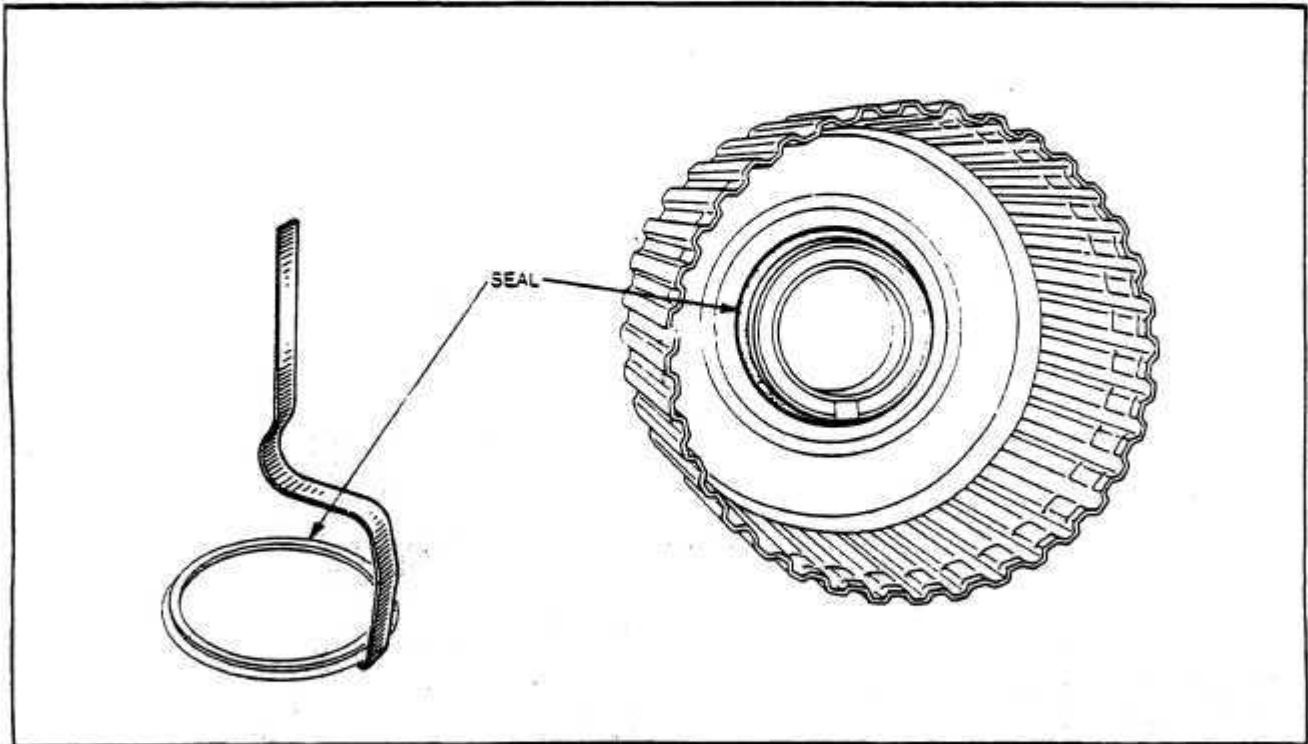

Fig. 65
8. Remove the seal from the clutch housing using a hooked tool. *Fig. 65*